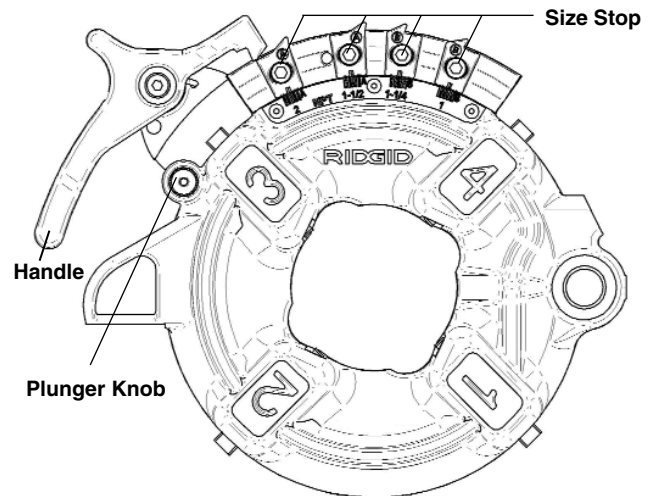

Figure 10 – Semi-Automatic Die Head
Semi-automatic die head (Figure 10) – When the end of the pipe being threaded is flush with the end of the number 1 die, hit the handle for the dies to release the pipe.
The Semi-Automatic Die Head (*Figure 10*) for right hand threads requires four sets of dies to thread pipe ranging from $\frac{1}{8}$ " through 2". One set of dies is required for each of the following pipe size ranges: ($\frac{1}{8}$ "), ($\frac{1}{4}$ " and $\frac{3}{8}$ "), ($\frac{1}{2}$ " and $\frac{3}{4}$ ") and (1" through 2"). Bolt threading requires a separate set of dies for each bolt size.
1. Depress handle so that camplate rests (*Figure 10 – Model 816/817 Die Head*) against the stop. (As shown).